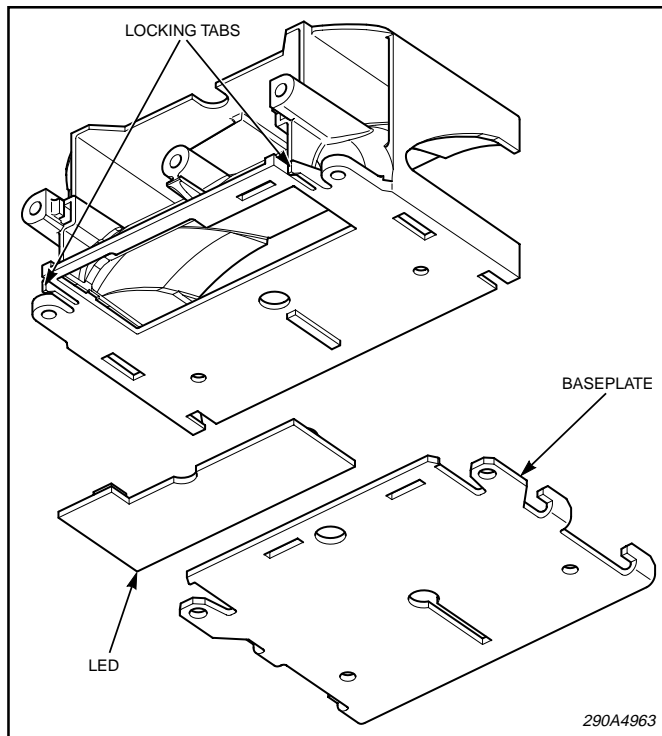

Figure 10.
5. *LED Replacement (see figure 10).*